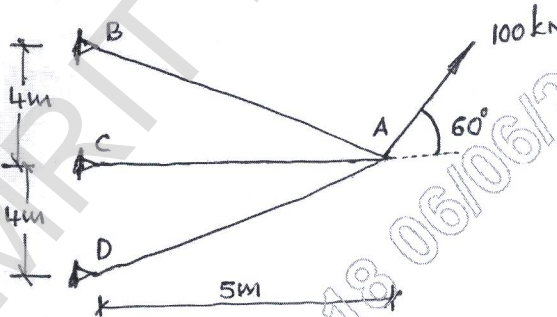

Fig. Q7
- 7 Find the forces in the members of a joint loaded as shown in Fig. Q7, using stiffness matrix method. Axial rigidity of all the members are same. Use element approach. (20 Marks)